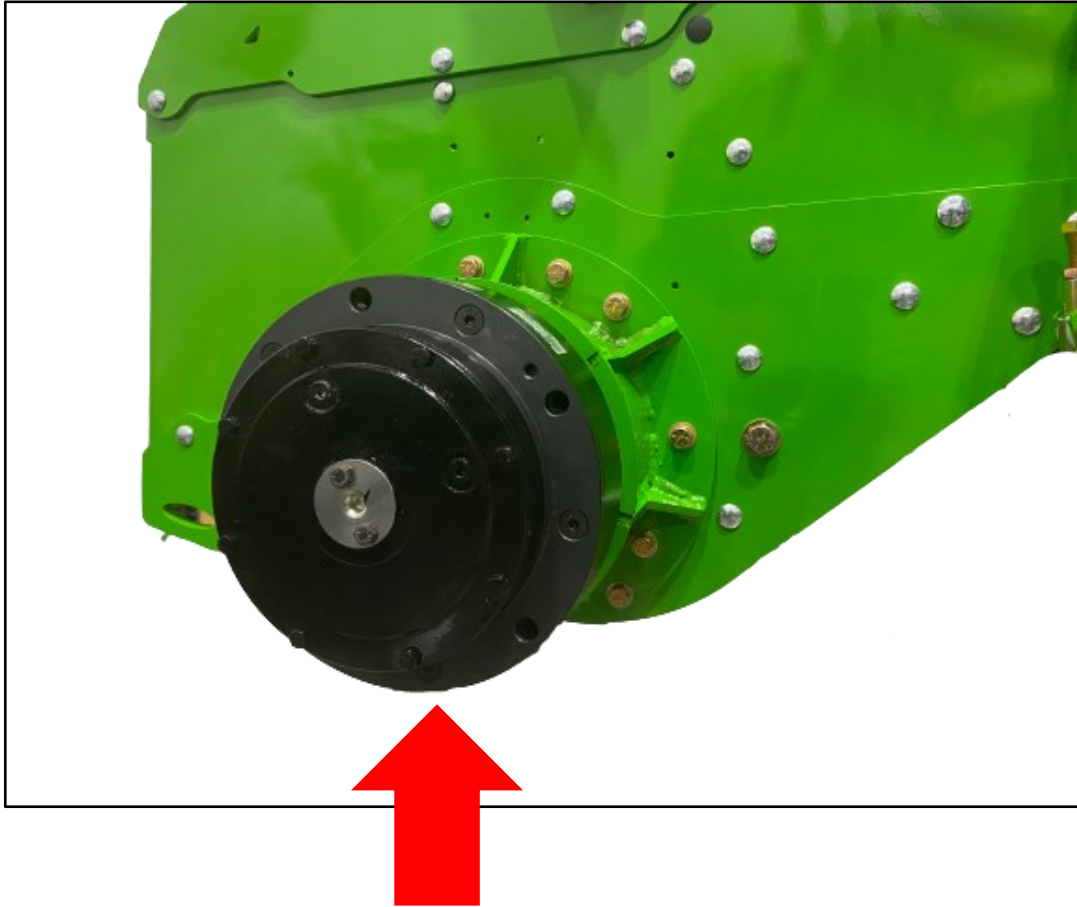

Figure-02: Place a Hydraulic Jack under this area of gearbox OR use an engine hoist with a strap around the gearbox.
- *****CAUTION!!***** These complete units weight upwards of 70lbs. Place a hydraulic jack under the hub or use an engine hoist, prior to removal of the last bolt, to safely lower the unit to the ground. See Figure-02 for Reference points for hydraulic jack.